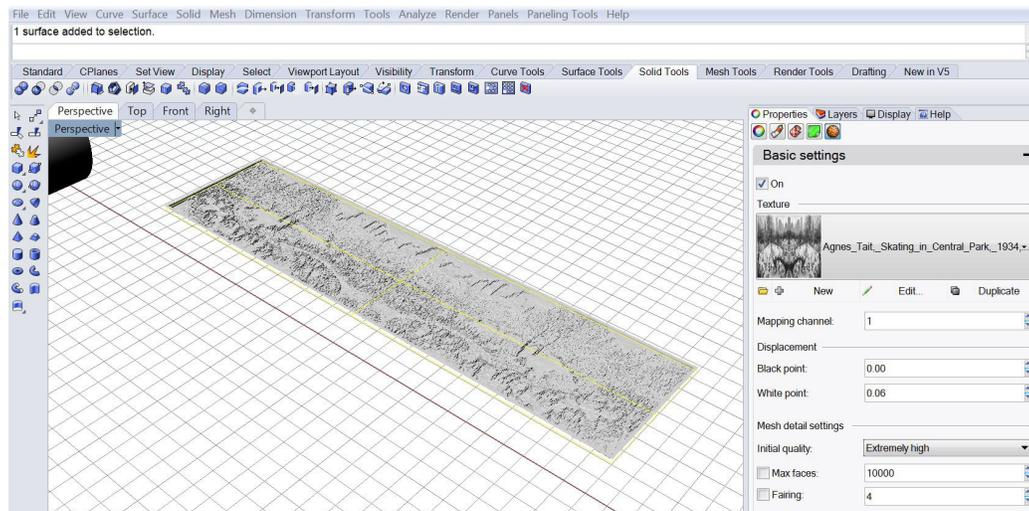

Figure 1.5 Apply displacement settings on Right hand side.
4. Select the unrolled surface and enter the command ApplyDisplacement. This will pull up a bunch of option on how to create the surface texture. Upload the image you created and set the white point to .06 in. This height was determined by our tests to be the best range to create a light to dark effect (figure 1.5).